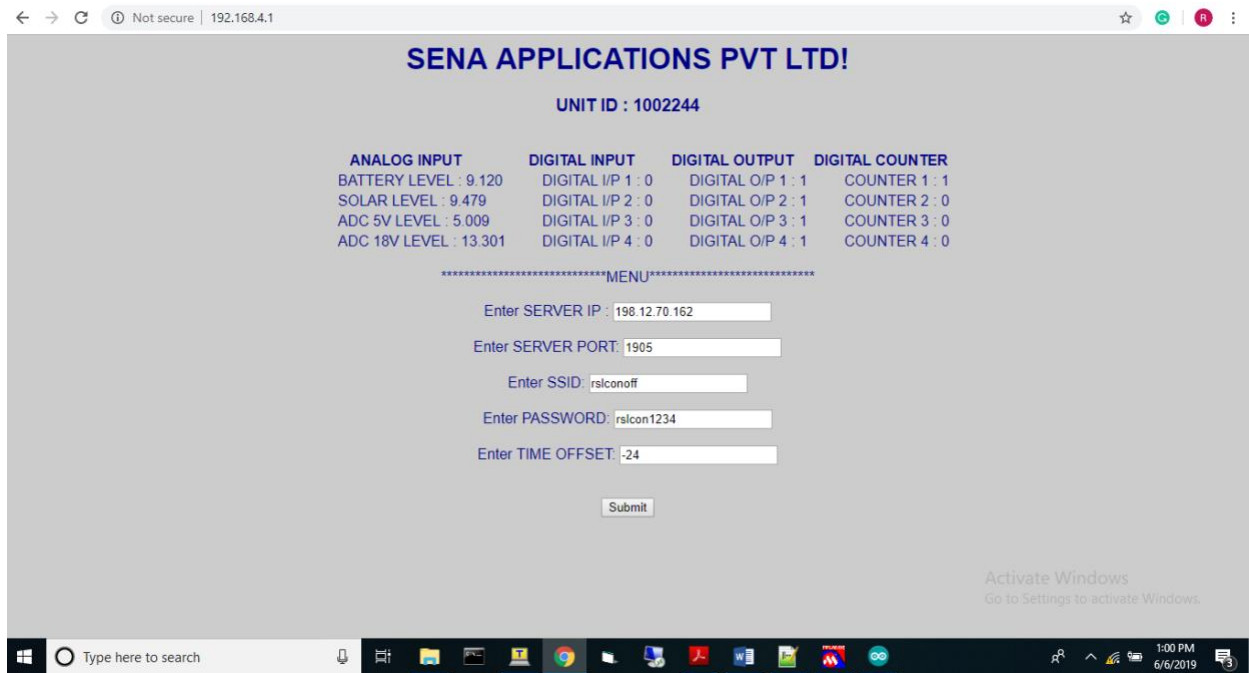

Figure 5
- This will result in display of NP200 Menu as shown below: (figure 5)